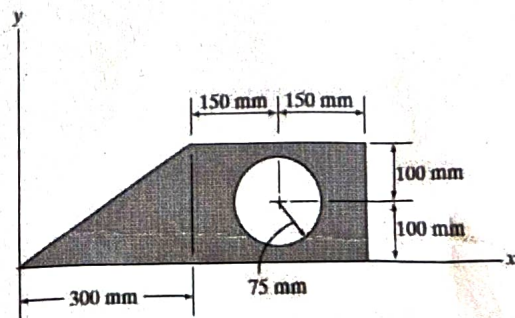

Fig 4
- Q.4. Determine the moment of inertia of the composite area (Fig 4) about the x axis. (04)